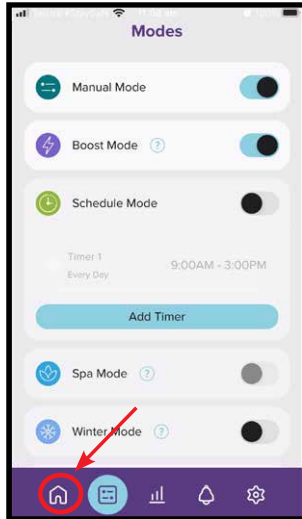

Figure 9.47
- Return to the dashboard now by using the home button (refer Figure 9.47).